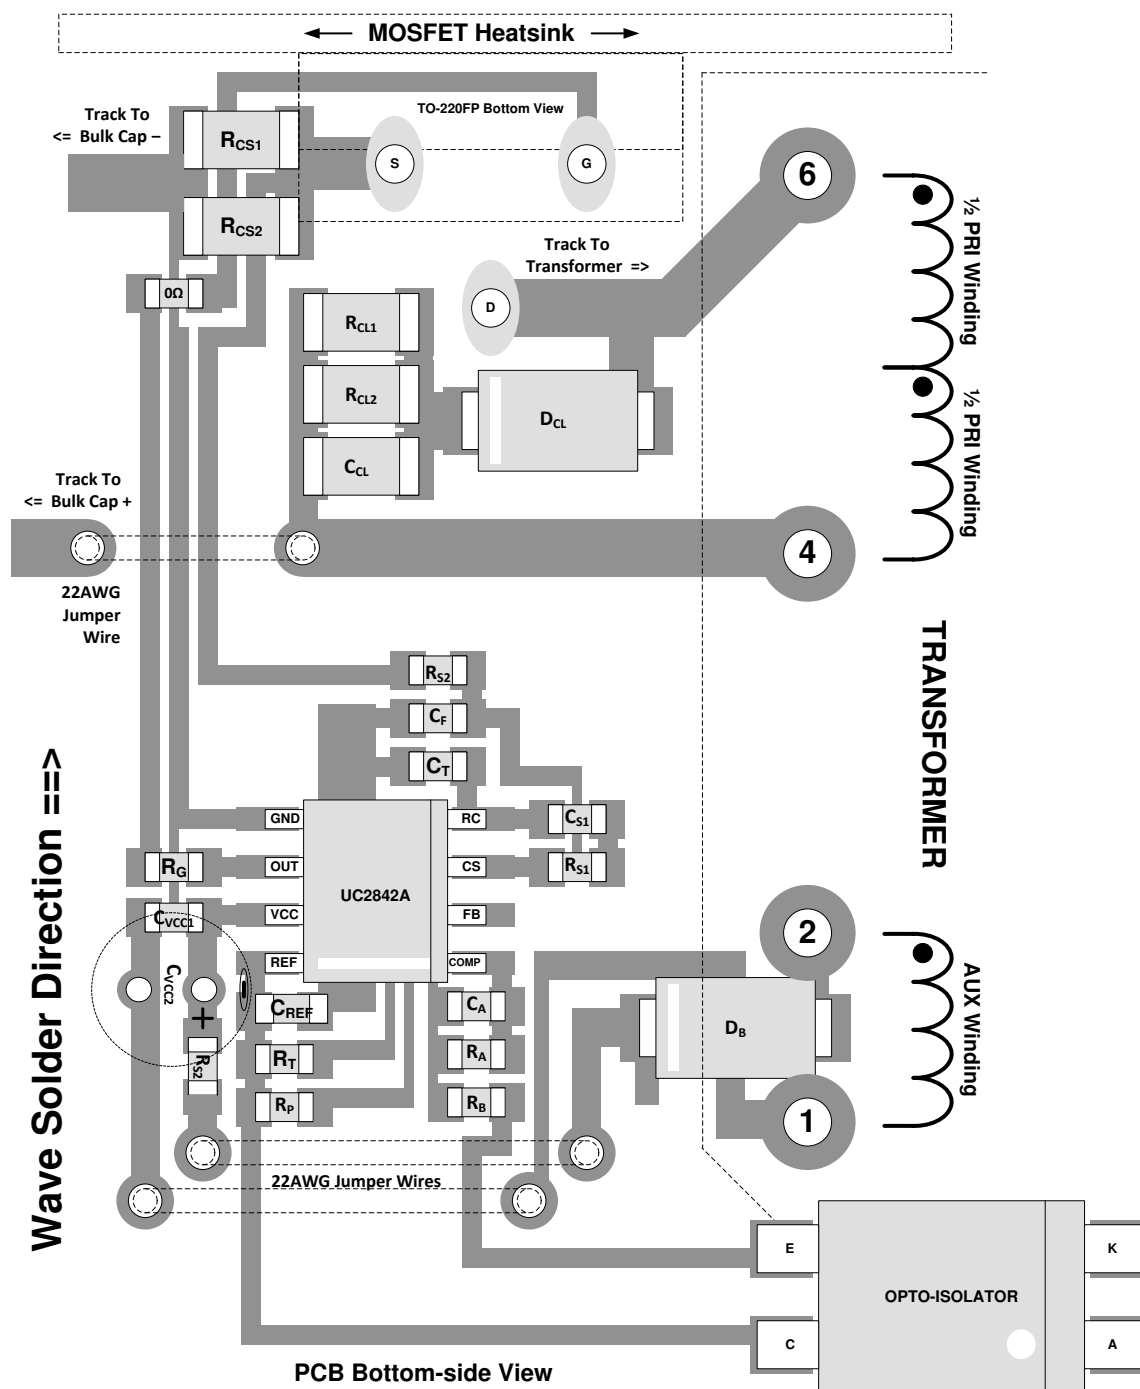

Figure 10-1. Layout Diagram
- Figure 10-1 shows the SMD components arranged for wave-solder on a single-layer board. If multiple layers are used, some components may be rearranged for easier interconnection and reduced current-loop areas. If the solder process allows, placing the SMD components in perpendicular orientations may improve interconnections and loop areas.